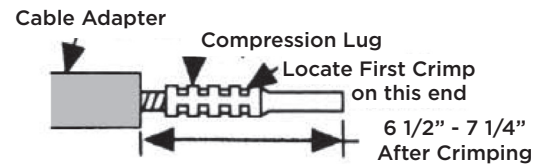

Fig. 8 - Final Crimp Dimensions
- b. Measure check dimension after crimping to verify it is between 6 1/2" and 7 1/4". (See Figure 8)